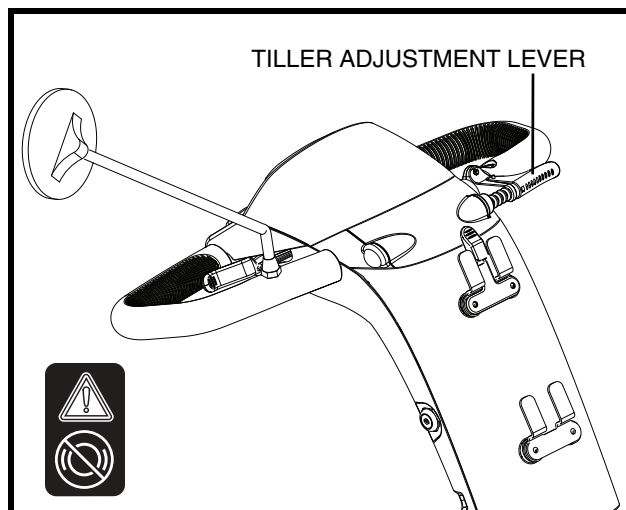

Figure 16. Tiller Adjustment
1. Squeeze the tiller adjustment lever. See figure 16.